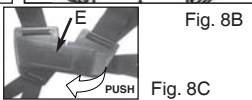

Fig. 8C
- 1b. For Model MB 305 CBS, the shoulder straps are on your both shoulders. **NOTE:** Pull the black strip(E) in order to quickly release the harness from the operator in the event of emergency. (Fig 8C)